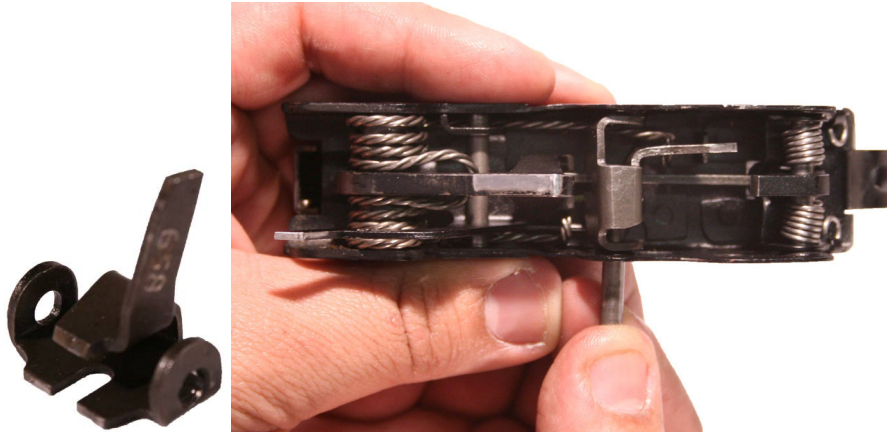

Figure 17. Install the Sear and Install a Retaining Pin through the Sear.
9. Pull the hammer back until it engages the safety sear. Install the sear. Install a retaining pin through the sear. Use a hammer and punch if necessary. Refer to Figure 17.